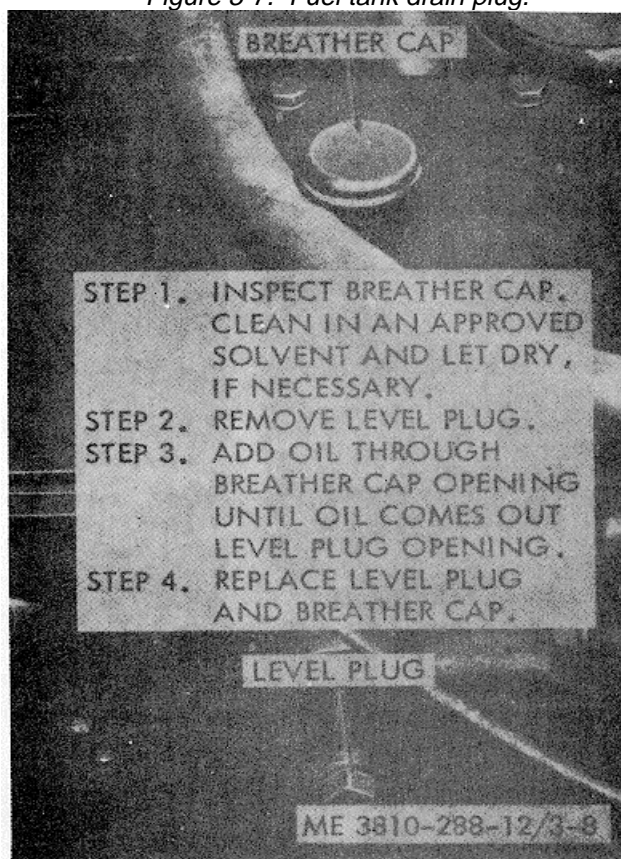

Figure 3-8. Transmission inspection and service.
a. Inspect. Refer to figure 3-8 and inspect the transmission breather cap for cleanliness. -If necessary, rinse the cap in clean diesel fuel or kerosene and allow to drain dry before replacing. Inspect the transmission for signs of oil leaks or other damage.
b. Service. Refer to figure 3-8 and service the transmission.